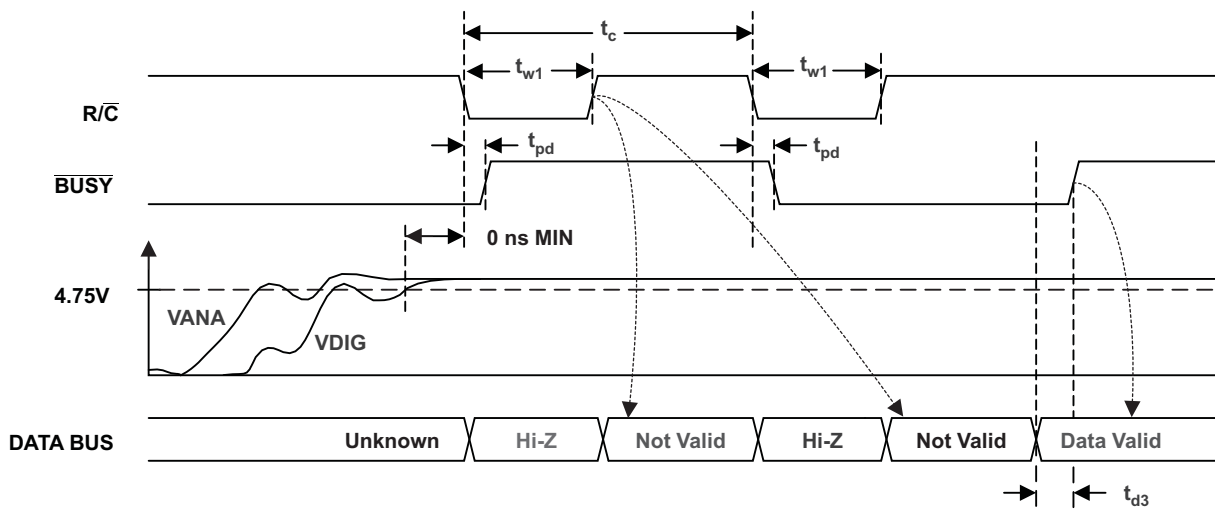

Figure 22. ADC Reset
The combination of $\overline{CS}$ (pin 25) and $\overline{R/\overline{C}}$ (pin 24) low for a minimum of 40 ns immediately puts the sample/hold of the ADS8504 in the hold state and starts conversion n . $\overline{BUSY}$ (pin 26) goes low and stays low until conversion n is completed and the internal output register has been updated. All new convert commands during $\overline{BUSY}$ low will abort the conversion in progress and reset the ADC (see Figure 22).
(2) See Figure 22 for details on ADC reset.